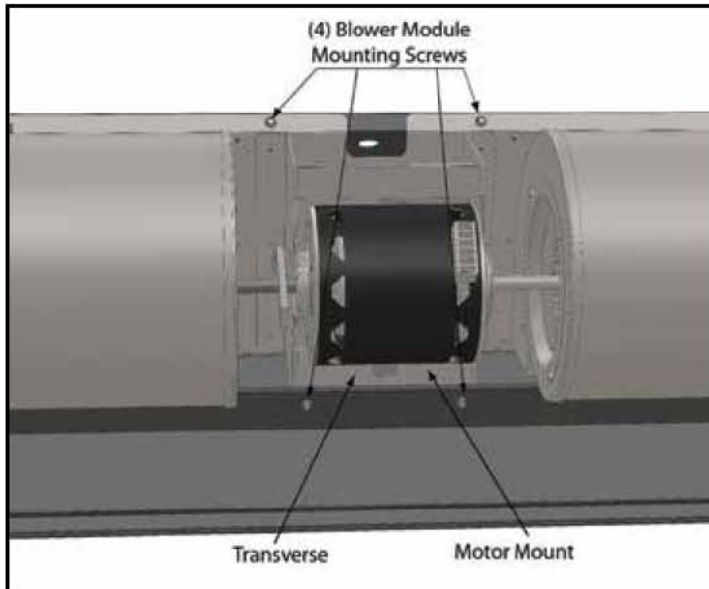

FIGURE 12- Location of screws
4. Removing the blower module requires removing (4) #12 self-drilling sheet metal screws. Using a 5/16" hex driver, first remove the (2) screws that go through the Transverse into the Motor Mount. **See Figure 12.**
5. After removing the (2) screws in this step, the approximately 40 lbs. module will be free to drop down out of
the unit. While holding the module in place by pushing up onto the motor, remove the top, final (2) screws that go through the Blower Plate into the Main Channel. **See Figure 12.**